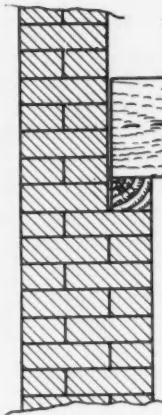

Fig. 1
2. The joists are carried on the offset formed by the reduction of the walls from brick-and-half to one brick; a plate being laid on the offset to receive the ends of the joists, as in Fig. 1.